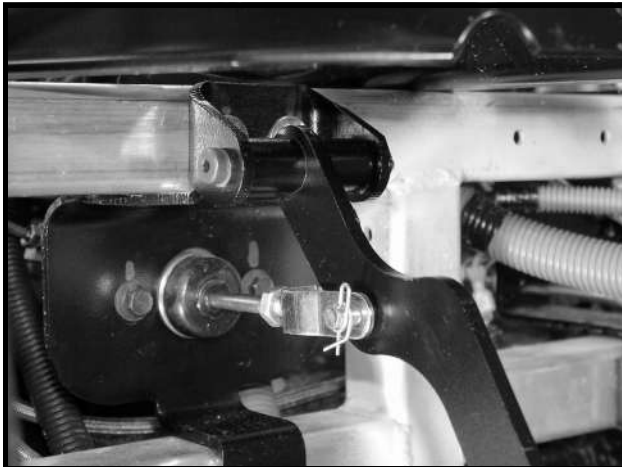

Figure 5-4 Clevis and Rue Pin
4. Remove the rue pin and the clevis pin. Separate the clevis from the brake pedal (**Figure 5-4, Page 5-3**).
1. Loosen the master cylinder rod and clevis jam nut (**Figure 5-4, Page 5-3**).